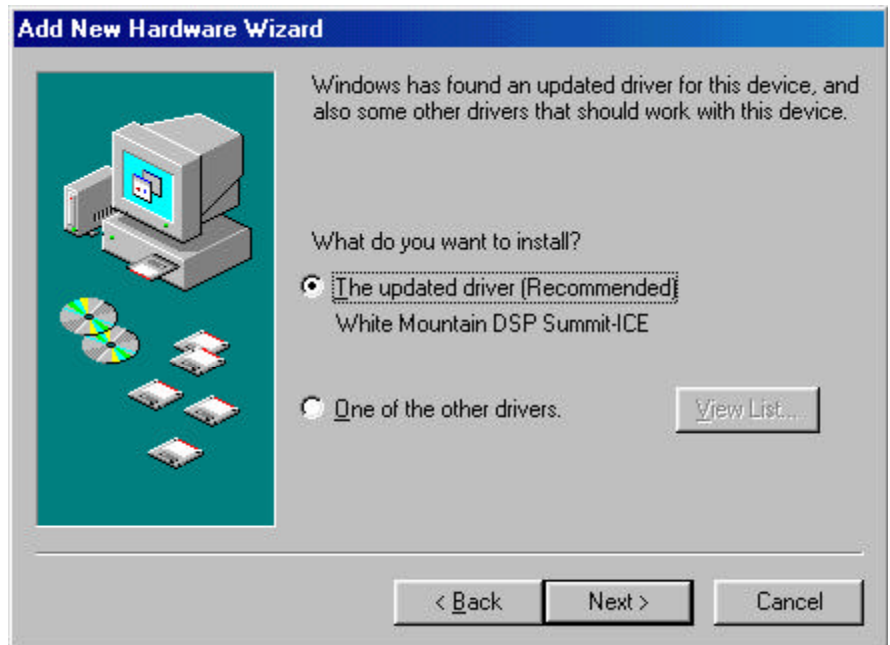

Figure 6. Located Driver Dialog for Windows 98
4. The Add New Hardware Wizard will locate the SummitICE.inf file on the disk as shown in figure 6. Click Next.